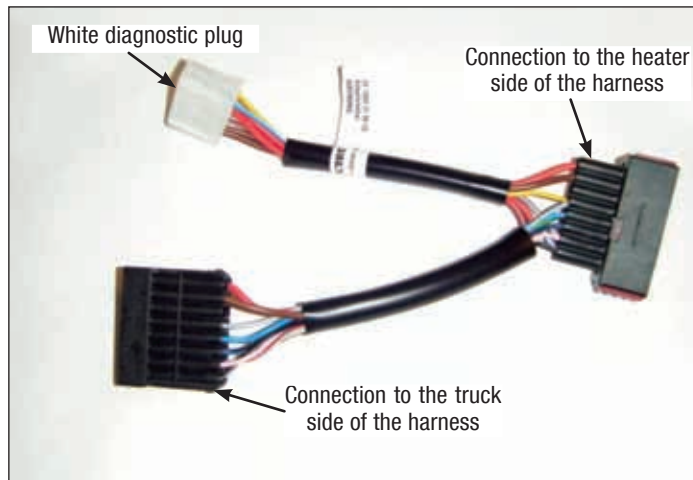

Figure 15
3. Connect Diagnostic Interface adapter (Figure 15).
5. If the problem persists connect the test harness (Figure 15) and wire the Espar directly to the batteries.